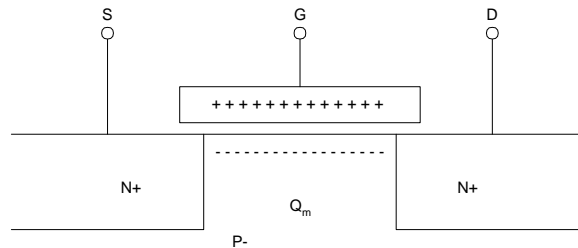

Figure 1-12: Cross-Sectional View of an NMOS Transistor
A cross sectional view of an NMOS transistor is shown in Figure 1-12. When the potential difference between the source (S) and the Drain (D) is small (~ 0 V), and a large potential ($> V_{T0}$) is applied between the gate (G) and source, the transistor will be operating in the linear or ohmic region. The positive gate potential causes electrons to gather below the surface of the substrate near the gate in a process called "inversion". This region of mobile charge forms a "channel" between the source and drain. The amount of charge is a function of the gate capacitance (C_{ox}) and the gate-to-source overdrive voltage: